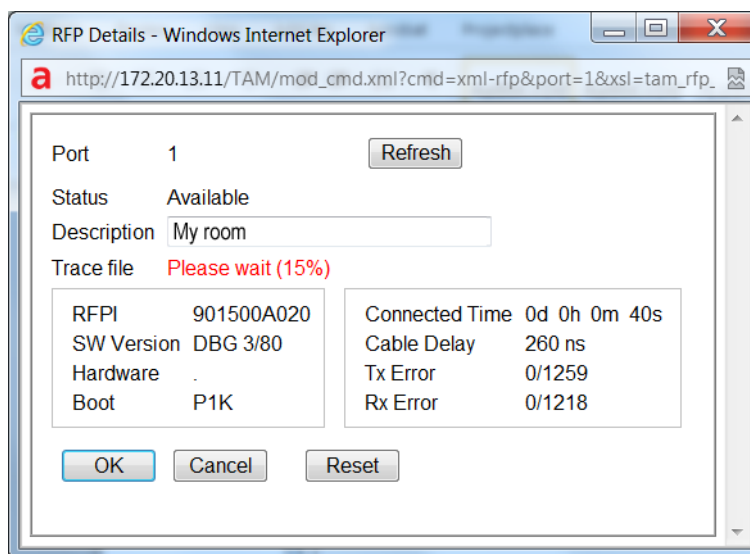
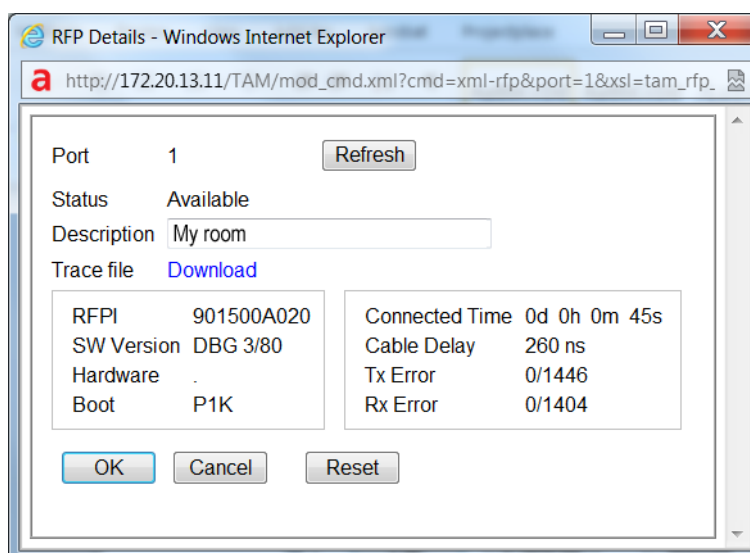

Figure 27.
Figure 28.
3. Click on the blue retrieval text link "No file available (retrieve from RFP)" (see figure on page 125). The log is being prepared for download which may take up to 3 to 4 minutes (figure 27). The retrieval link will thereafter turn into the blue text link "Download" (figure 28).